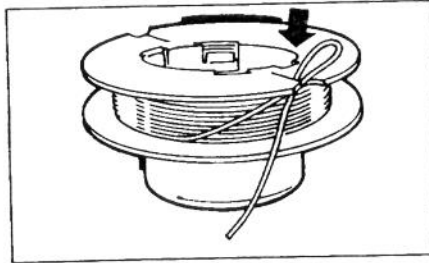

Figure 17
- A. Hook one end of line into groove on spool allowing no more than 1/8 inch of line to protrude. Wind line in direction of arrows on spool in level rows between spool flanges (Fig. 17).
- C. Keep line tight on spool by making a hook in the line and secure in groove (Fig. 17).